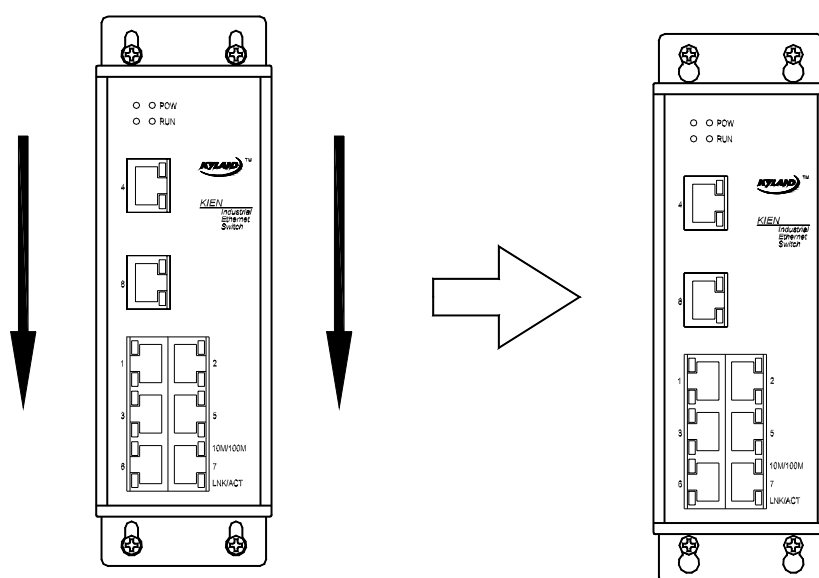

Figure 4-5 Schematic diagram for wall-mounting process
4. After fastening the screws on the wall, mount KIEN5000 in the selected position. Pass the four screws through the four  $\Phi 6.5$  holes on the wall-mounting plate and slip KIEN5000 downwards, as shown in Figure 4-5. Fasten the four screws. KIEN5000 has now been fastened on the wall or inner wall of cabinet.